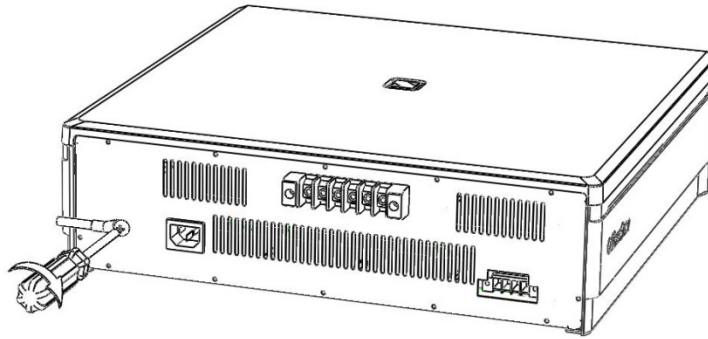

Figure 5.10 Grounding
- 1) Ground the system to the grounding lug at the rear side of 7150. \(See Figure 5.10\)